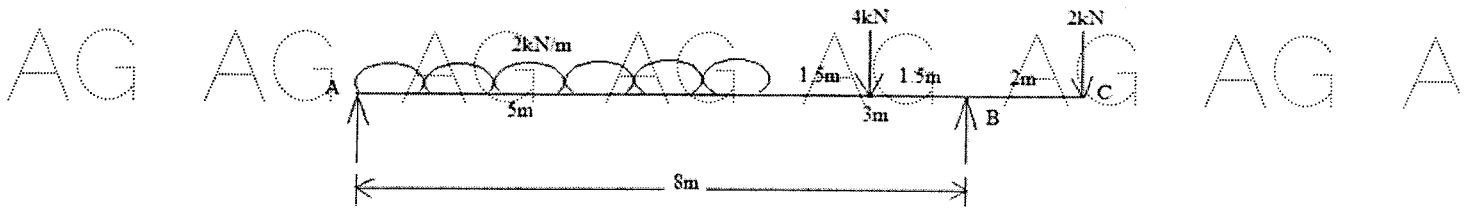

Figure: 2
5. Calculate the reactions in the beam shown in Figure 2. Draw the SFD and BMD. Determine the location of maximum bending moment and mark it clearly on each of the diagrams. [10]